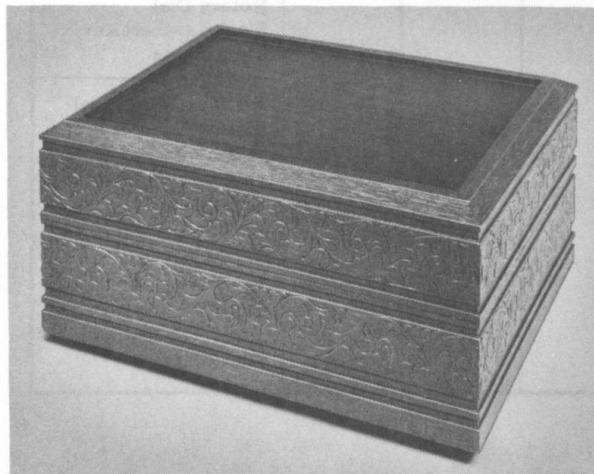

Fig. 1—881A100 or 2881A100 DESIGN LINE Telephone Set With Cover Closed
1.01 This section provides identification, installation, and connection information for the 881A100 (MD), 881B100 (MD), 881C100, 881A101 (MD), 881B101 (MD), 881C101, 881B110 (MD), 881C110, 2881A100 (MD), 2881B100 (MD), 2881C100, 2881A101 (MD), 2881B101 (MD), 2881C101, 2881B110 (MD), or 2881C110 DESIGN LINE\* telephone (*Chestphone*\*\*) sets (Fig. 1 and 2).